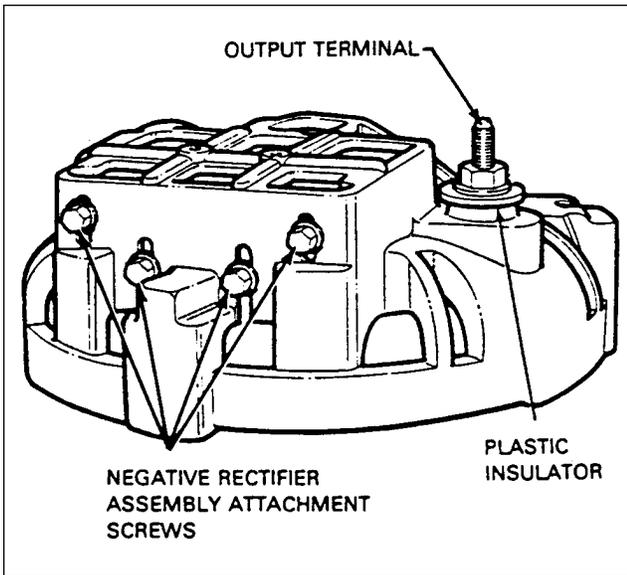

Figure 24-10. Rectifier and Heatsink
**REMOVAL OF RECTIFIER AND HEATSINK ASSEMBLY** (figure 24-10)